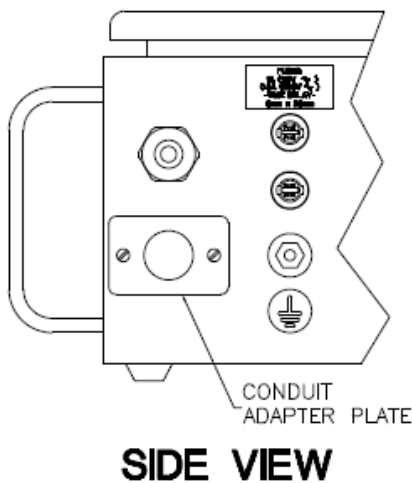

Figure 6: Installation of Conduit Adapter Plate
3. Install the Conduit Adapter Plate (supplied) in the hole where the AC inlet receptacle was removed (see Figure 6).